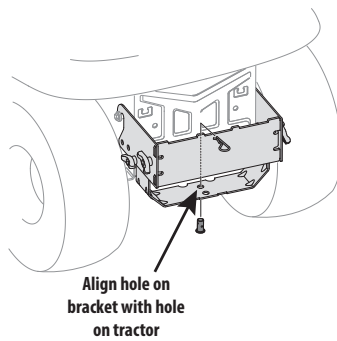

Figure 8
2. Install the clevis pin (710-0309A) from hardware pack 689-02364 into the tractor's hitch and secure with the cotter pin (714-0117). See Figure 8.